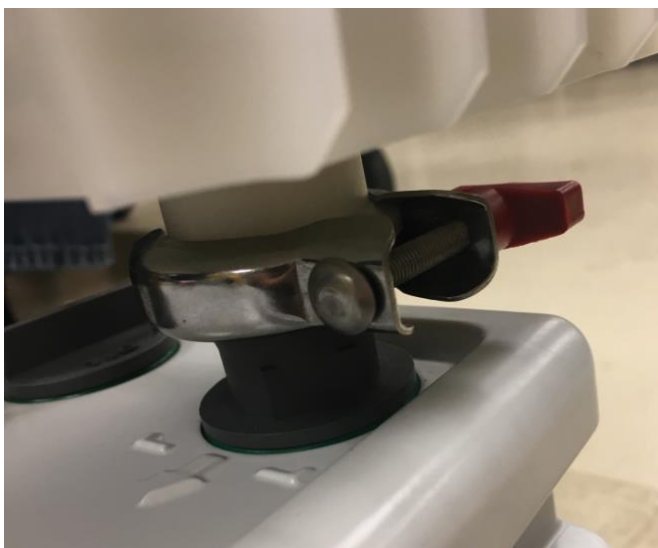

Figure 27: Securing the oil mist filter with a clamp
- 6) Use the included clamp to attach secure the oil mist filter to the adapter. Do not loosen the gray exhaust port adapter when installing the oil mist filter. See Figure 27.